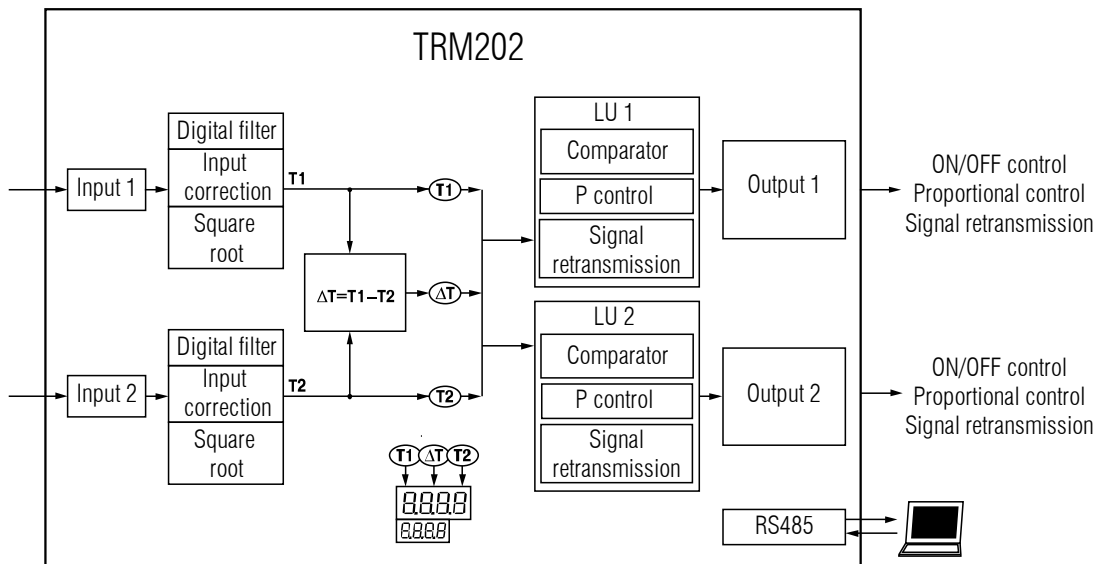

Fig. 6.2 Block diagram
The combination of a Control Unit (LU) with its input parameter and the associated output defines a control channel (see Fig. 6.2).